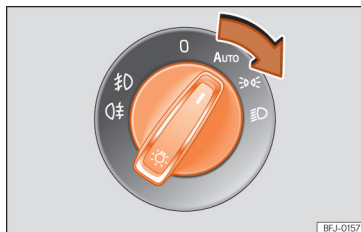

Fig. 72 Instrument panel: light panel.
- Turn on the ignition and turn the light switch to the desired position >>> **Fig. 72**: